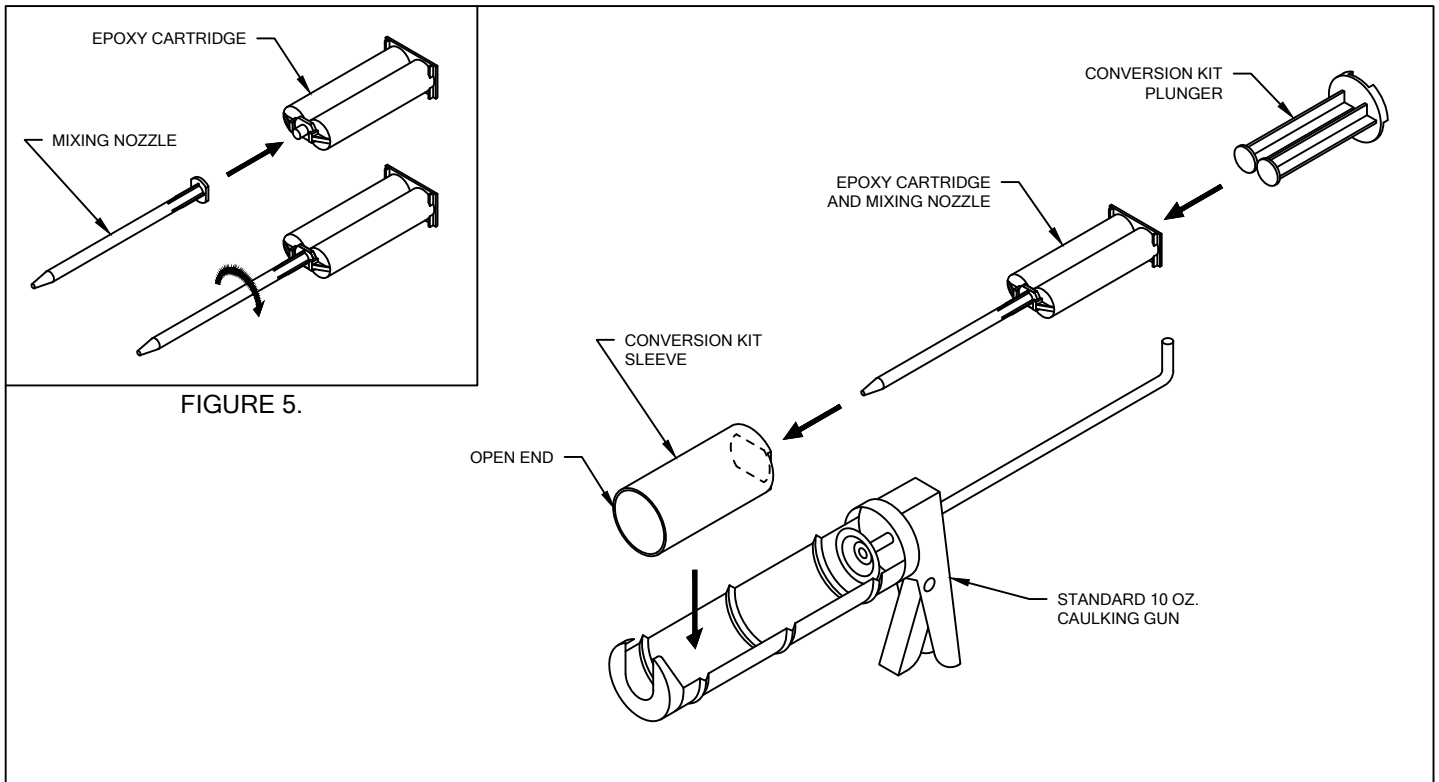

FIGURE 6.
CAULKING GUN CONVERSION KIT. REFER TO FIGURE 6.
3. PLACE THE CONVERSION KIT, WITH MIXER NOZZLE AND EPOXY CARTRIDGE, IN A STANDARD 10 OZ CAULKING GUN AS SHOWN IN FIGURE 6. PLUNGER WILL ATTACH TO CIRCULAR PUSH PLATE ON CAULKING GUN.